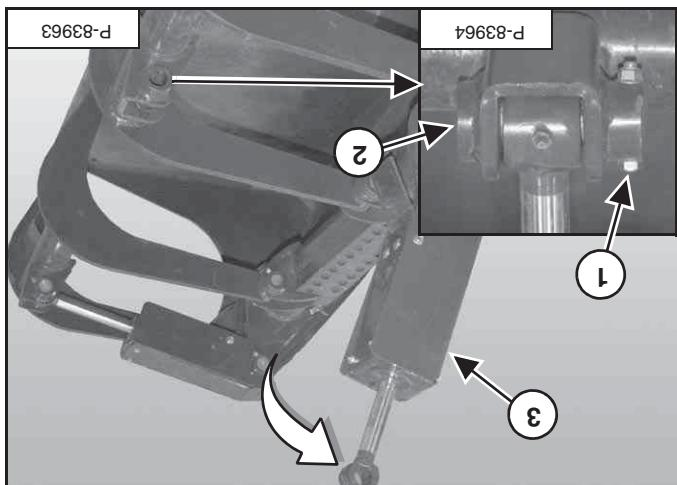

Figure 105
- Remove the bolt and nut (Item 1), remove the cylinder pin (Item 2) [Figure 105]. Rotate the cylinder (Item 3) [Figure 105] upward. Installation: Rotate the cylinder downward and install through retaining hole, install and tighten nut.